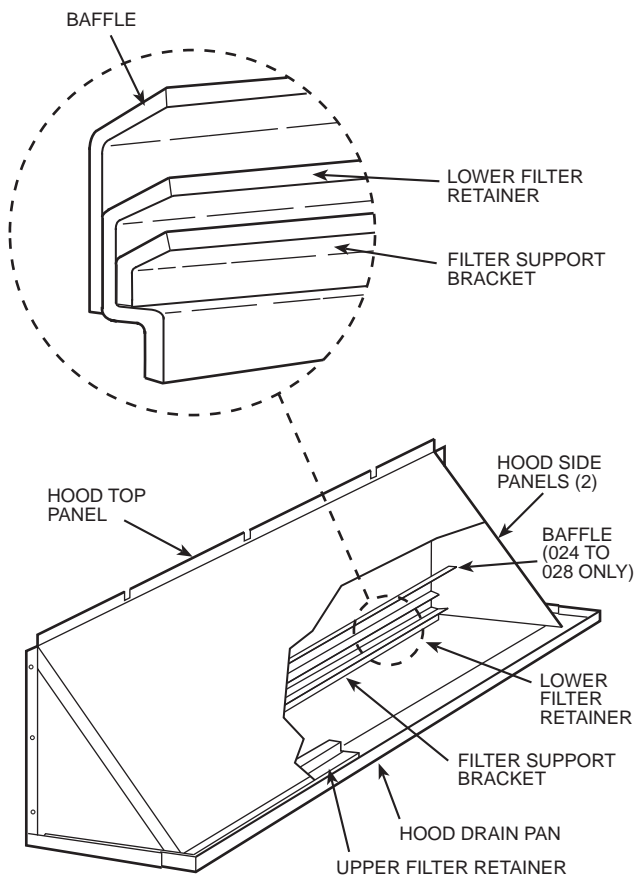

Fig. 22 — Outdoor-Air Hood Details
2. Assemble hood top panel, side panels, upper filter retainer, and drain pan (see Fig. 22).
3. Secure lower filter retainer and support bracket to unit. See Fig. 22. Leave screws loose on 024 and 028 units.